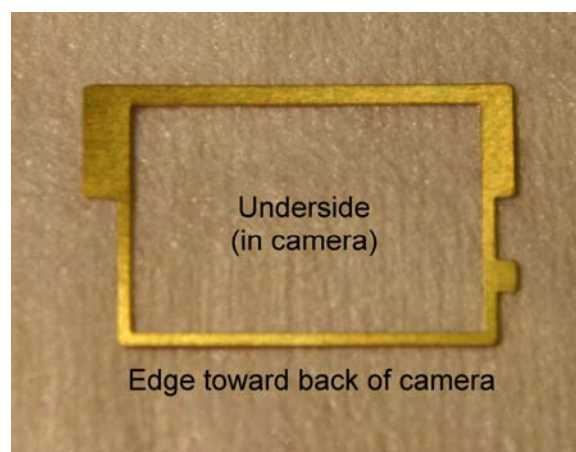

Figure 5. Shim
34. Figure 5 shows a typical shim, and identifies its orientation.